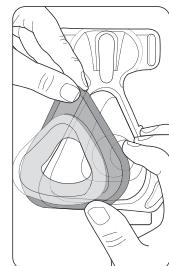

Figure 7
- Place the smaller inner sealing cushion on the mask frame (Figure 7).